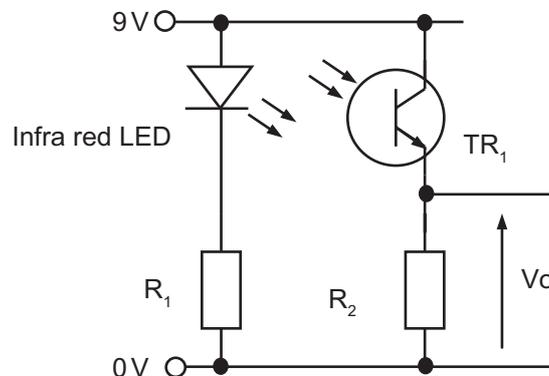

Fig. 1(c)
- (i) Name the component TR_1 shown in Fig. 1(c). [1]